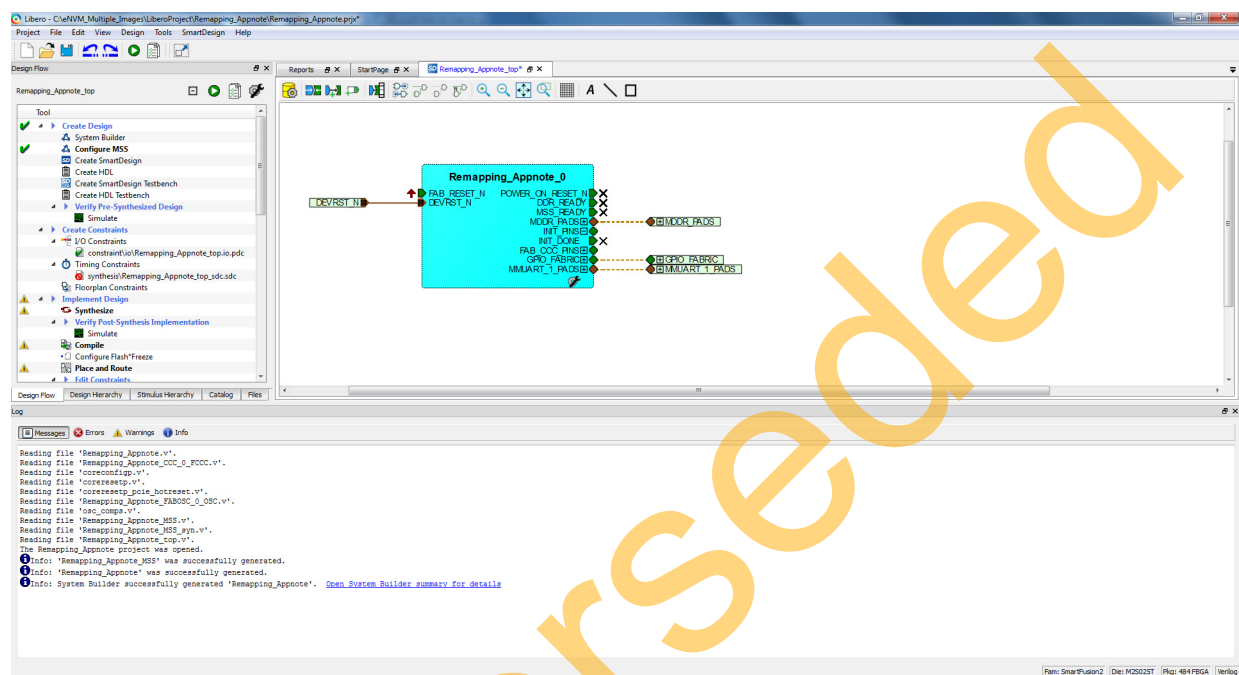
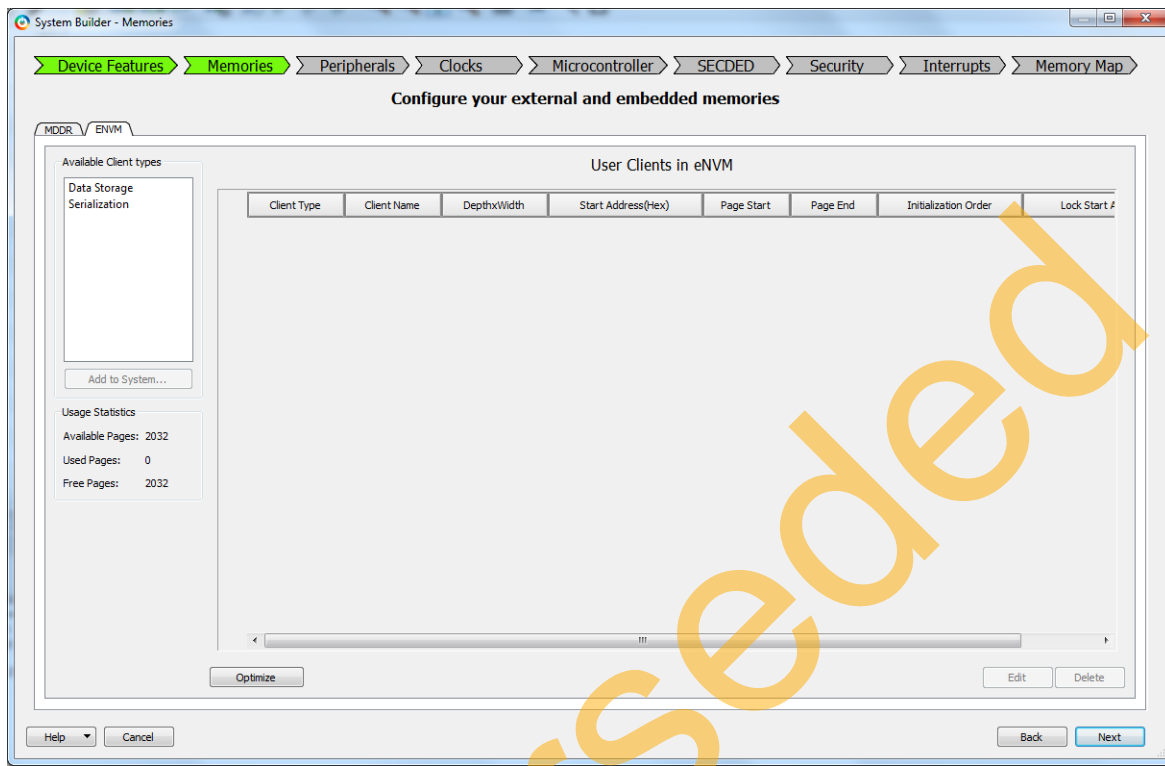
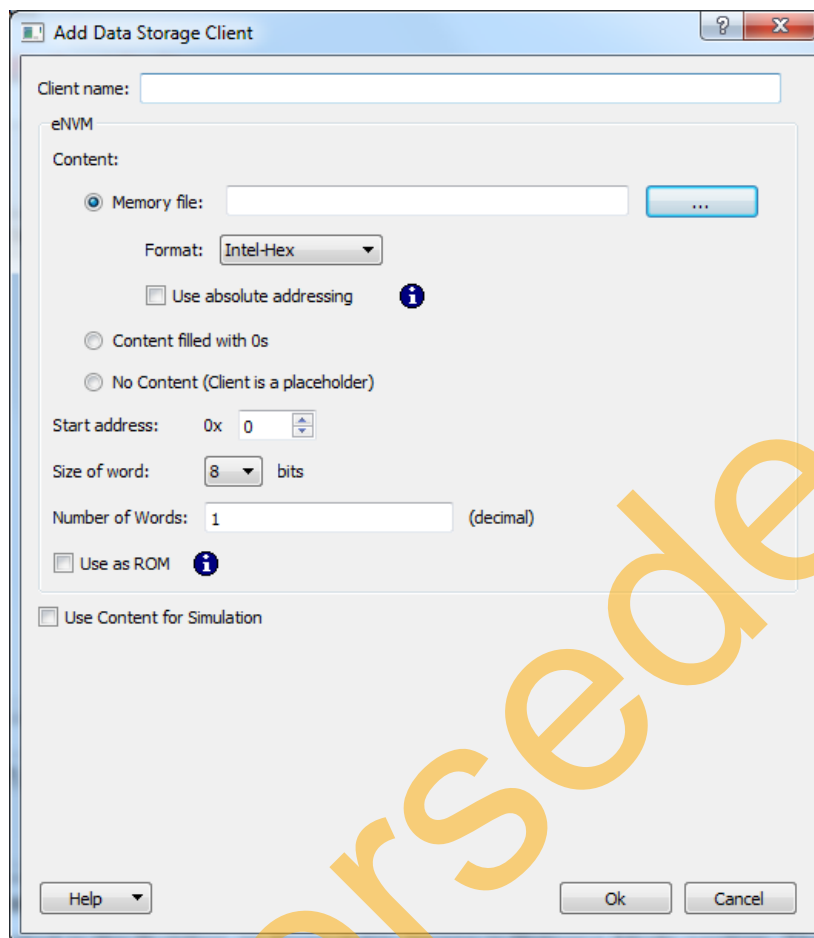

Figure 38 • Remapping_Appnote_top Tab
Figure 39 • System Builder - Memories Page
Figure 40 • Add to Data Storage Client Window
2. Double-click **Remapping_Appnote_0** (see Figure 38) and go to **System Builder - Memories** page (see Figure 39) to add the eNVM Data Storage client.
3. Select **Data Storage** under the **Available Client types** (see Figure 39) and click **Add to System....** This opens **Add to Data Storage Client** window as shown in Figure 40 on page 34.